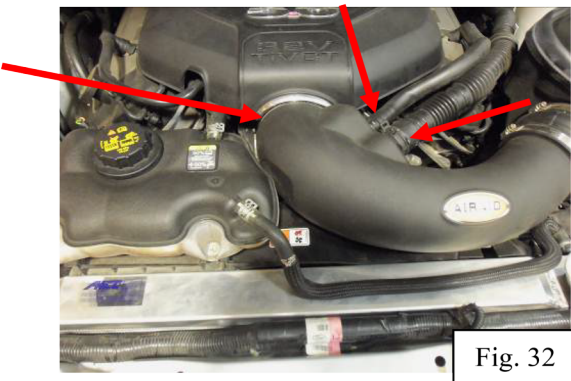

Fig. 32
29. Attach the air filter intake tube to the throttle body and set in place. Tighten the clamp holding the air intake to the throttle body. Tighten the 10mm bolt holding the filter housing to the inner fender. Attach the crankcase breather tube to the air intake and plug the wire harness to the MAP sensor (Fig. 32 & 33).